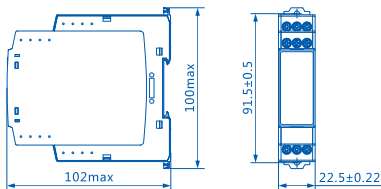

Figure 1 Outline and Installation Size
3.1 Outline and installation size: see Figure 1, unit: mm.